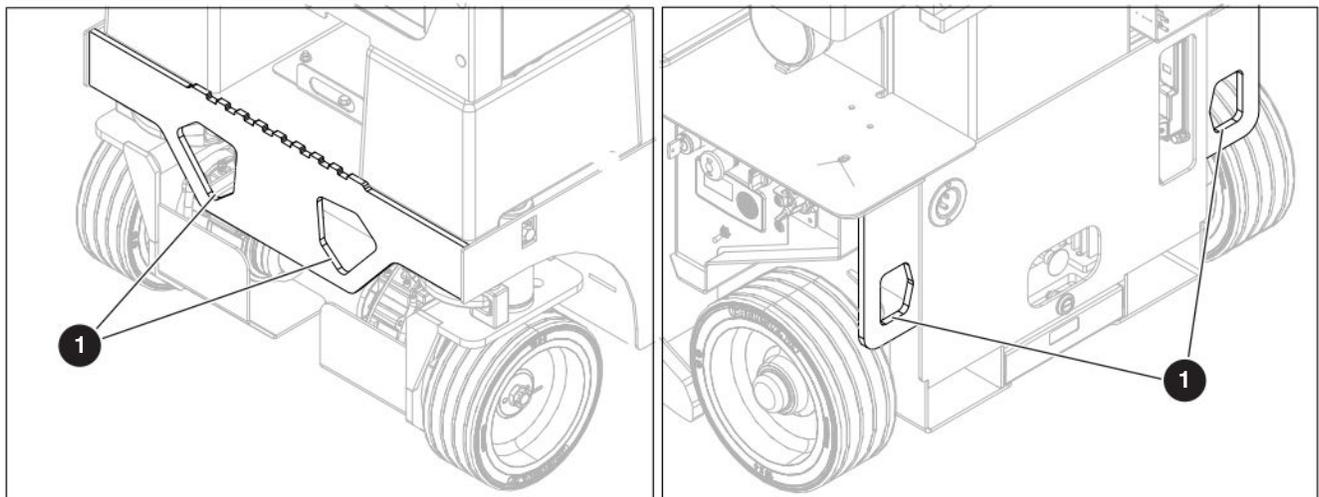
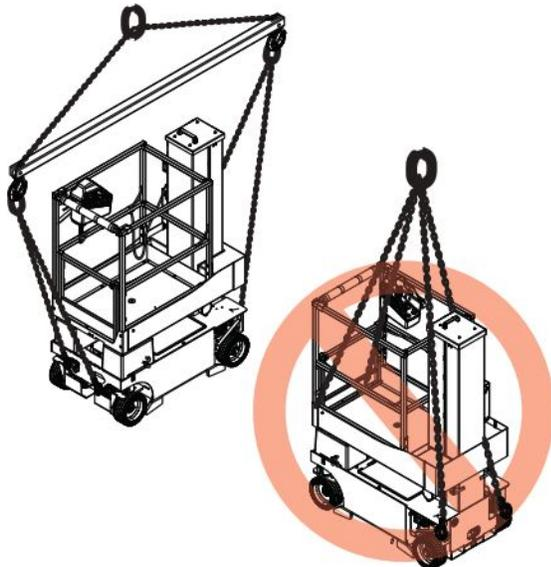

Figure 02 Tie-down and lift points
Figure 03 Appropriate method to hoist
- Attach the rigging to all **four lift points 1**. Refer to Figure 02 & Figure 03.
- Tie down the MEWP to the transport vehicle using the four **tie-down points 1**. Refer to Figure 02.
Make sure you use the correct lift method. An incorrect lift method, such as the one circled in Figure 03, can cause damage to the MEWP.